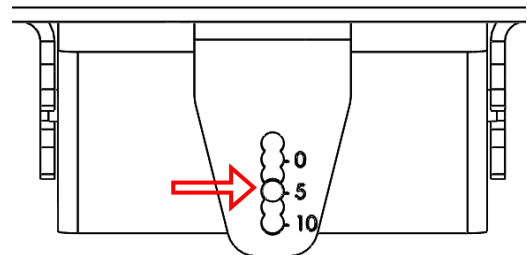

Figure 22: Sensor Alignment from -2.5 degrees to +10 degrees
22. Install the front radar sensor into the sensor carriage by locating the two (2) protrusions on each side (Figure 21a) and rotating the sensor into the carriage (Figure 21b). Use Figure 22 as a guide to depress the tab on top to secure the sensor into place at the correct position.